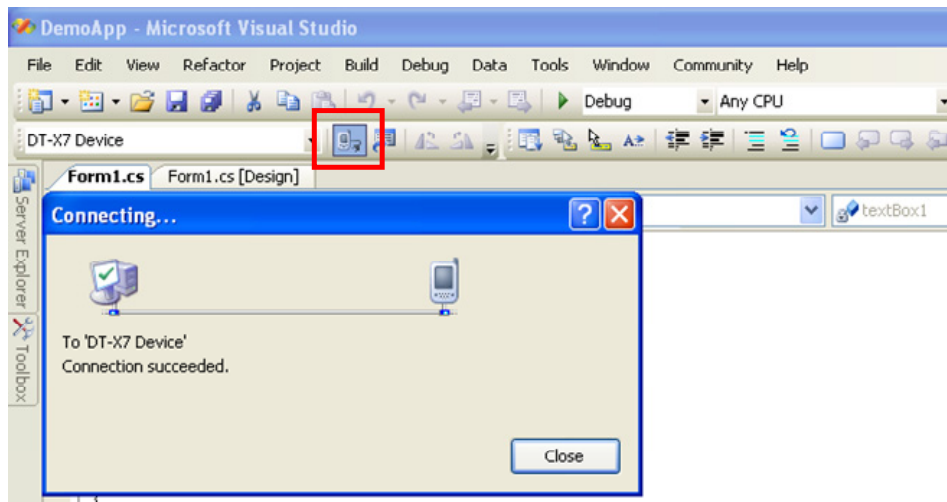

Figure 6.1
3. Click the button shown in the red box below (see Figure 6.1) to make sure that Visual Studio 2005 has recognized the connection established with the DT-X7 via ActiveSync. If it does not, start up ActiveSync again to establish connection.